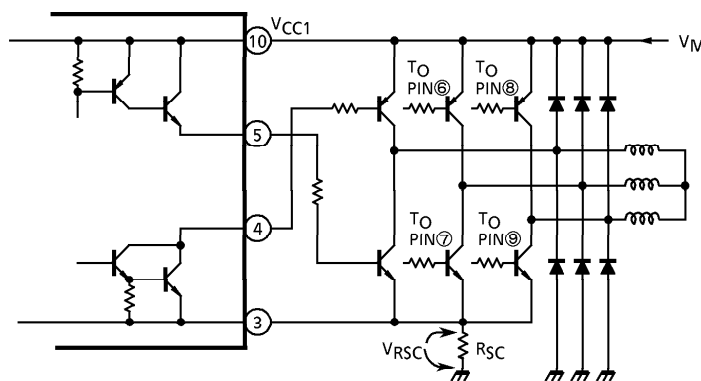

Fig.7 Output circuit
(4) Output circuit
The output circuit is shown in Fig.7. The upper side of the circuit (pins ⑤, ⑦ and ⑨) is for outlet, while the lower side (pins ④, ⑥ and ⑧) is for intake. When the built-in output transistors are used, pins ④ and ⑤, ⑥ and ⑦, and ⑧ and ⑨ shall be shorted, respectively.
When transistors are externally mounted for increasing the capacity largely, they shall be connected as shown in Fig.7.
If  $V_{RSC}$  in Fig.7 exceeds specified voltage ( $V_{RSC} = R_{SC} \cdot I_{SC}$ ), the output circuit is OFF.